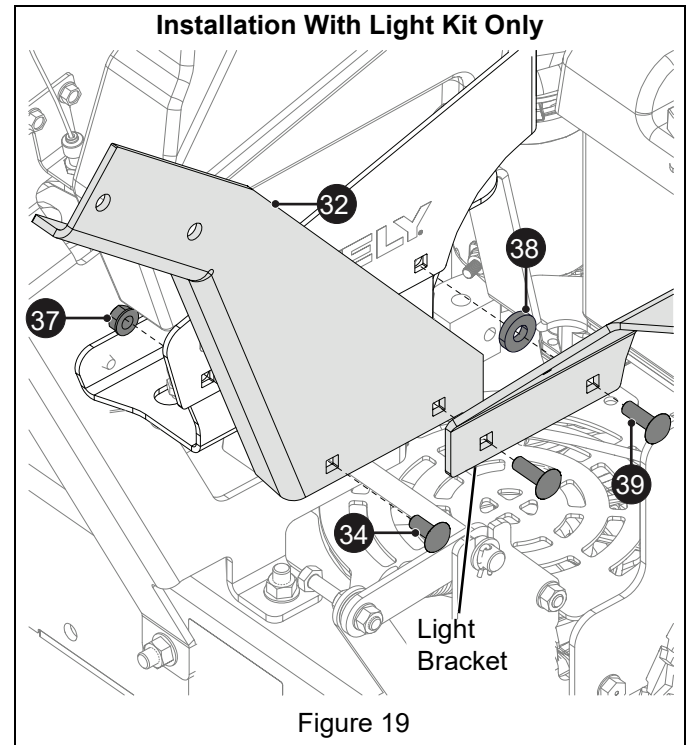

Figure 19
* Items 38 and 39 and one additional Item 37 are only required if light kit 78807300 is also installed. See Figure 19.
IMPORTANT: For installation with light kit 78807300 the upper bracket (item 32) must be installed behind the light bracket. Remove the right light bracket hardware and install flat washer (item 39). Retain washer, light bracket and upper bracket with one 5/16" x 1" round head square neck bolt, (item 34) two 5/16" x 1 1/2" bolts (item 39) and three locking center flange nuts (item 37). See Figure 19.